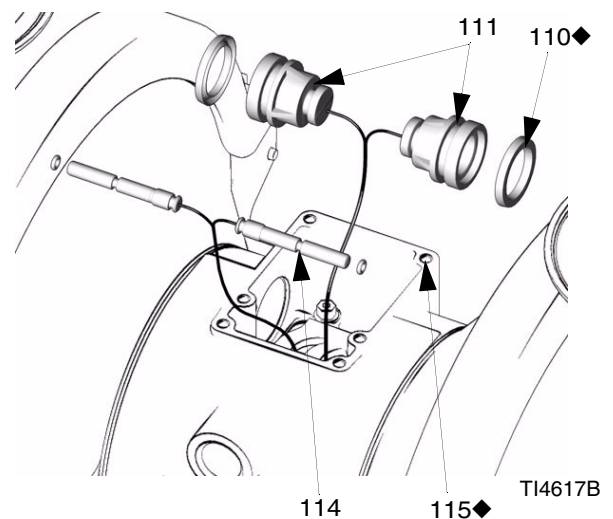

FIG. 8
4. Pull the two actuator pistons (111). Remove the u-cups (110) from the pistons. Pull the pilot pins (114). Remove the o-rings (115) from the pilot pins. See FIG. 8.